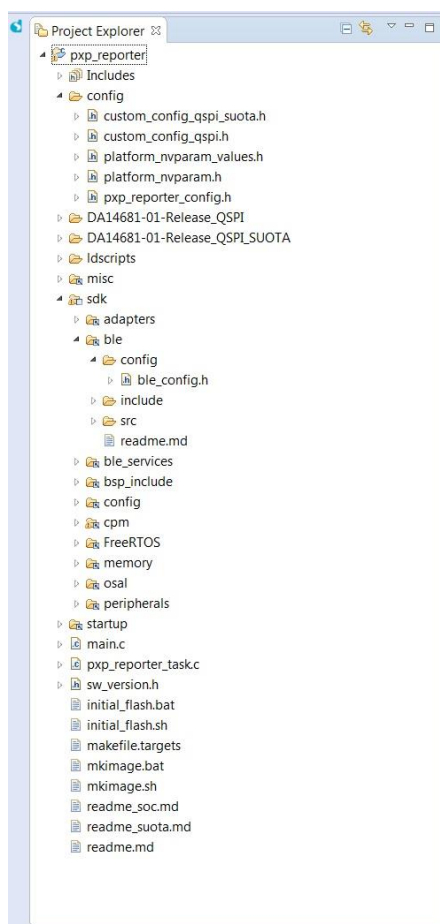

Figure 47: Project directory
6. A new image named `pxp_reporter.1.0.0.1.img`, containing a version number taken from `sw_version.h`, is created under `pxp_reporter/DA14681-01-Release_QSPI_SUOTA` folder as shown in Figure 47.